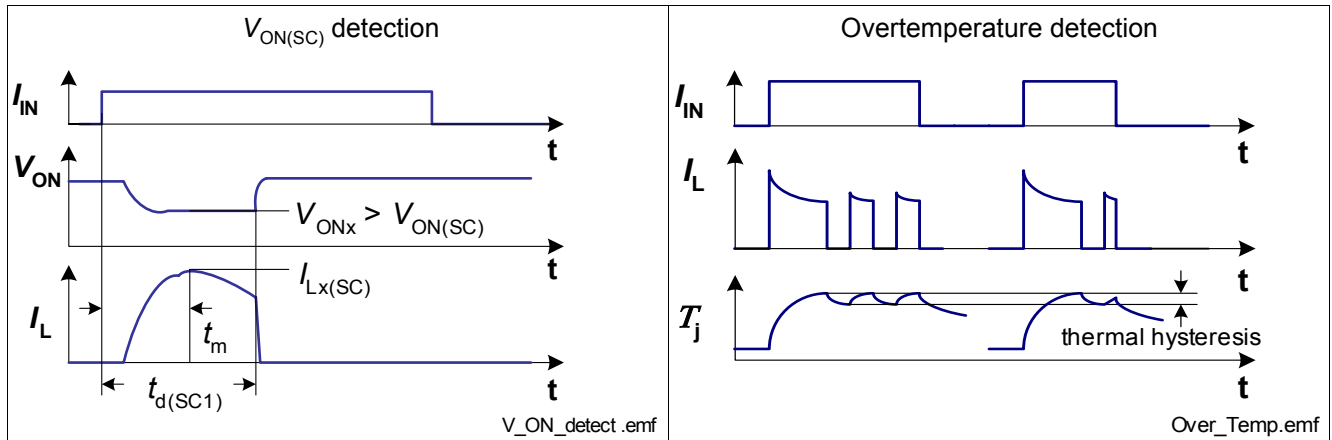
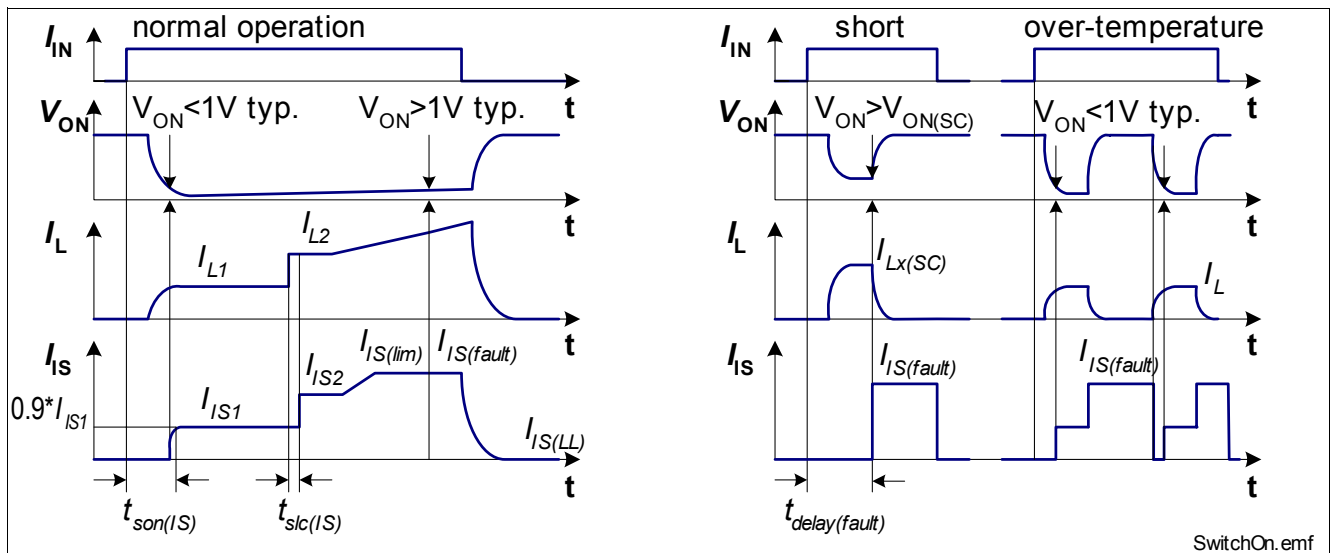

Figure 12 Overload Behavior
Figure 19 Timing of Diagnosis Signal in ON-state
In the event that either the short circuit detection via $V_{ON(SC)}$ is not activated or that the on chip temperature sensor senses overtemperature before the blanking time $t_{d(SC1)}$ expired, the device switches off resulting from overtemperature detection. After cooling down with thermal hysteresis, the device switches on again. The device will react as during normal switch on triggered by the input signal. Please refer to **Figure 12** and **Figure 19** for details.
- 2) Short circuit current limit for max. duration of $t_{d(SC1)}$, prior to shutdown, see also Figure 12.
Details about timings between the diagnosis signal I_{IS} , the forward voltage drop V_{ON} and the load current I_L in ON-state can be found in Figure 19.